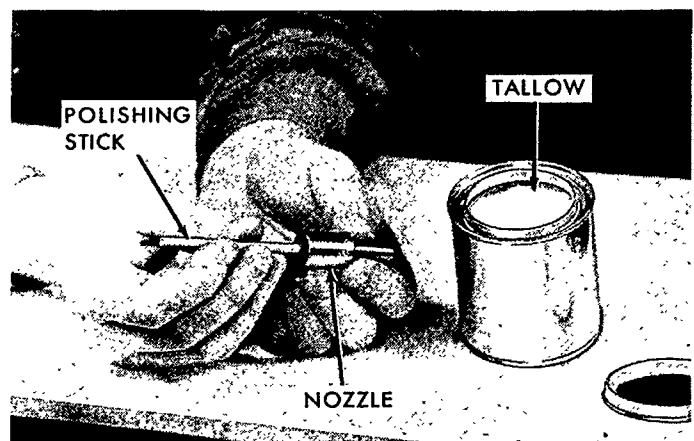

Figure 36
7. After the nozzle is thoroughly back-flushed to remove all loose carbon, polish the seat by placing a very small amount of Tallow (polishing paste) on the end of a Polishing Stick, page 32, and rotating in the nozzle, Figure 36.